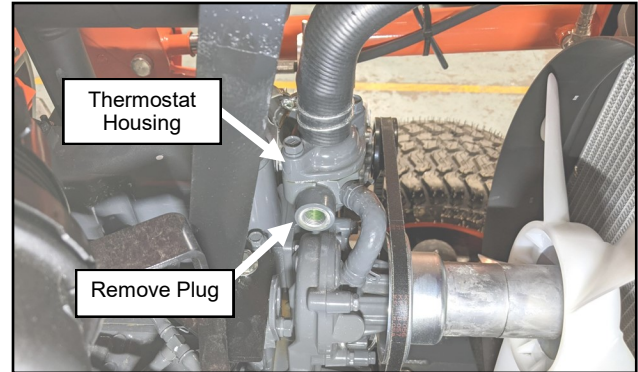

Fig. 15.11 (Remove Plug From Thermostat Housing)
- 15.11** Remove the plug from the thermostat housing. Save the brass washer for reuse. See Figure 15.11.